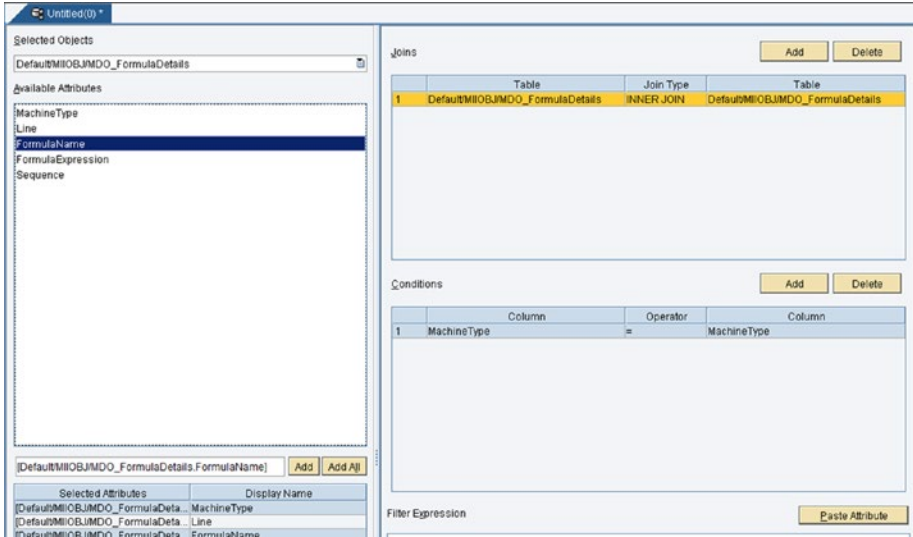

Figure 6-19. The Join Query Mode screen
- *Join Query*: If the mode selected is the JOIN type, the MDO will be configured in a JOIN query. It uses two or more persistent MDOs. Two types of joins can be applied—inner join and left outer join—and based on the type of join, the result will be fetched. See Figure 6-19.